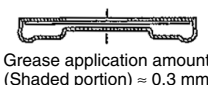
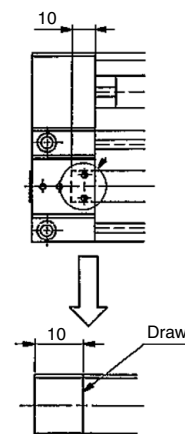

Fig. 1
Fig. 2
- After first performing the additional process shown in Fig. 2, be sure to apply grease to the entire replacement dust seal band in the manner shown in Fig. 1 (Note 1).
- The end cover is fixed so that the clearance between the end cover assembly bottom part and the cylinder tube upper surface is about 1 mm. (Fig. 2)
Note 1) Apply grease evenly as the fig. 1. Use consistency No. 1 or No. 2 of the lithium soap grease.
Note 4) Ensure that the magic drawing of additional work to the dust seal band (Fig. 2) is hidden inside the head cover assembly.